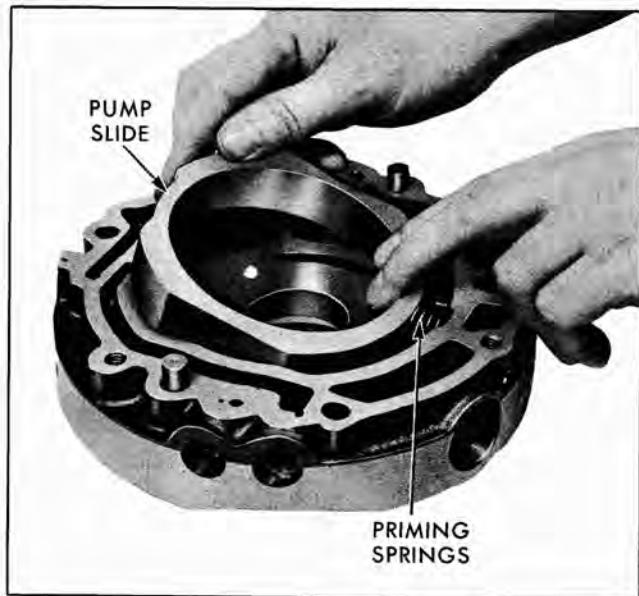

Fig. 112 Installing Front Pump Slide
1. Insert inner and outer priming springs in the recess in pump body (Fig. 112).